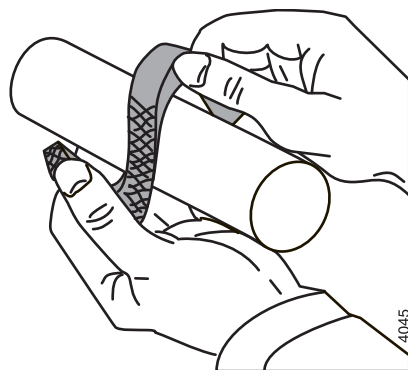

Figure 7: Axially bending open packing rings.
- Bend the new packing rings open axially. See figure 7.